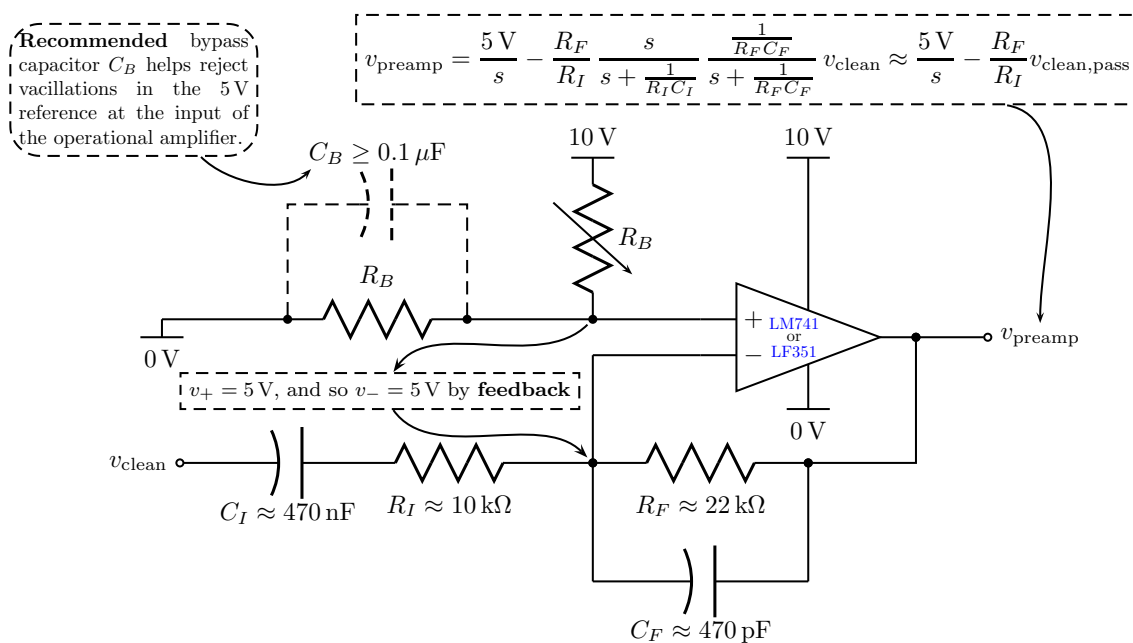

Figure 4.16: Single-ended voltage amplifier with high-frequency pole.
1. Build the circuit in Figure 4.16 BELOW.